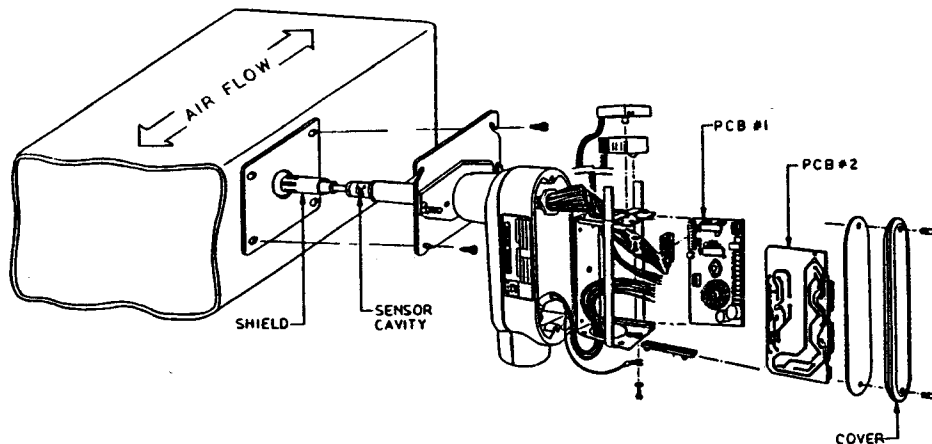

Figure 4-2. Installation Diagram
2. Remove the duct mounting plate from the RHCM-20 and use a template to locate the mounting screws. An access hole through the duct wall of 1.25" (3.25 cm) diameter at the center of the installation point is required to insert the sensor into the duct. Refer to Figure 4-2.
4. Gain access to the printed circuit board #1 (shown in Figure 4-2) by removing one screw holding the back cover of the electronics housing. Loosen second screw and pivot cover and gasket around this screw. The RHCM-20 will power up immediately upon connection of power.